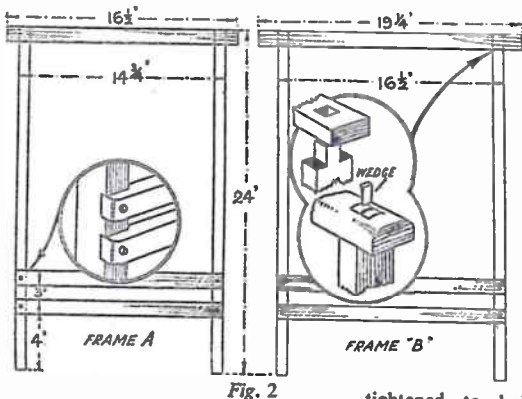

Fig. 2
Briefly, the construction consists of making up three frames. Those shown as (A) and (B) are alike, except in size. Plans of each frame are given in Fig. 2, and the inset detail in (B) shows the joint adopted for connecting the
When the joints have been made and the glue has thoroughly hardened (if possible, use waterproof glue), use the spokeshave to round off the ends of the rails, etc., and glasspaper to make a good smooth finish. To complete the frames, screw on the pair of narrow rails to each, in the manner shown in Fig. 2. Copper rivets $\frac{1}{2}$ in. in diameter should be used for pivoting them together. The heads of these should be burred over washers inserted previously. Do not forget to place a washer in the $\frac{1}{2}$ in. clearance space allowed between the frames each side.